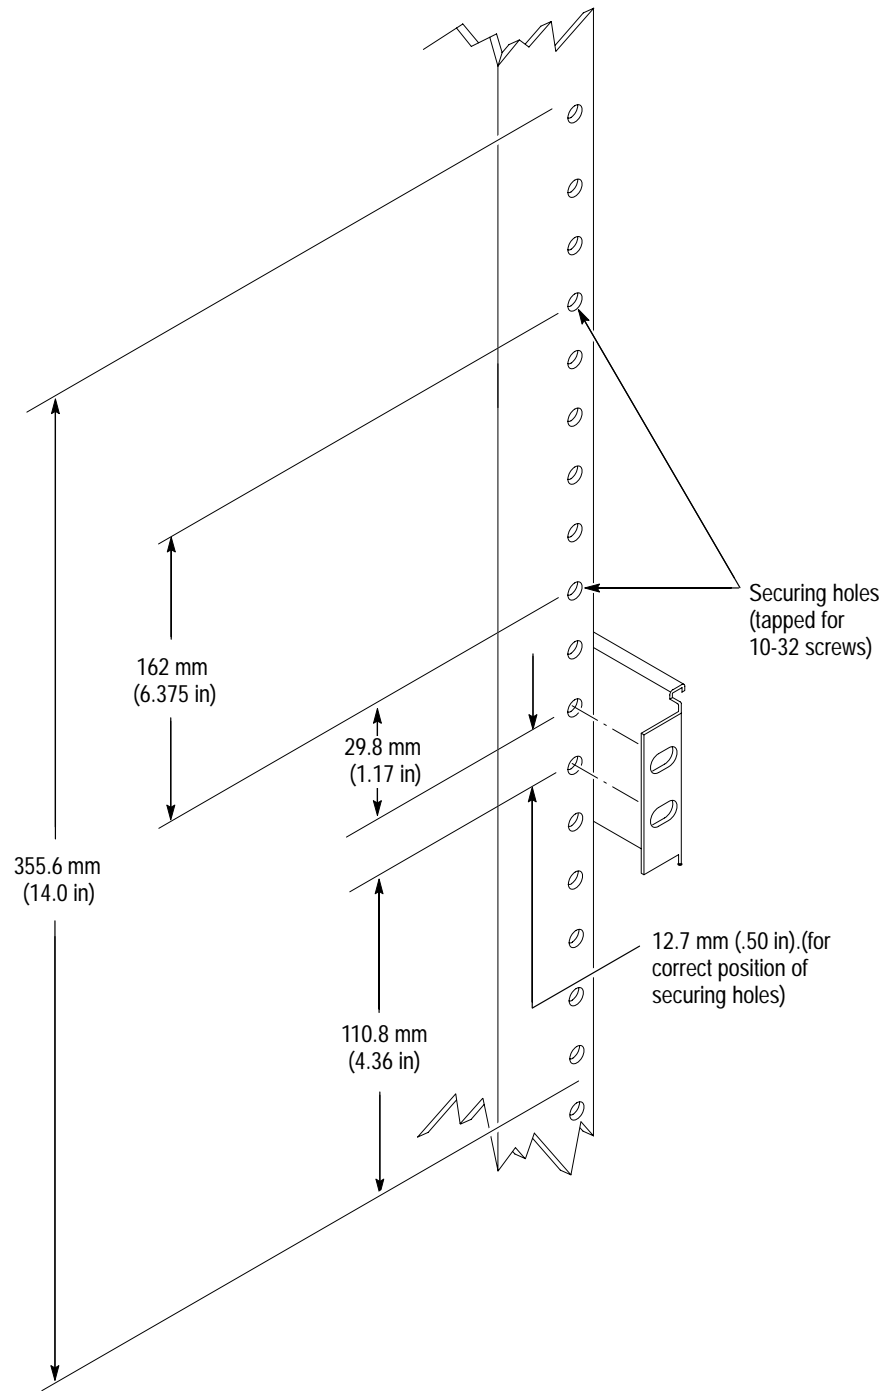

Figure 9: Vertical clearances for rack installation (left-front rail shown)
- a. *Select the mounting position in rack:* Select two ½ inch spaced holes in the front rail. Verify that the 4.36 inch and 14 inch clearances exist relative to those mounting holes. See Figure 9, page 17.